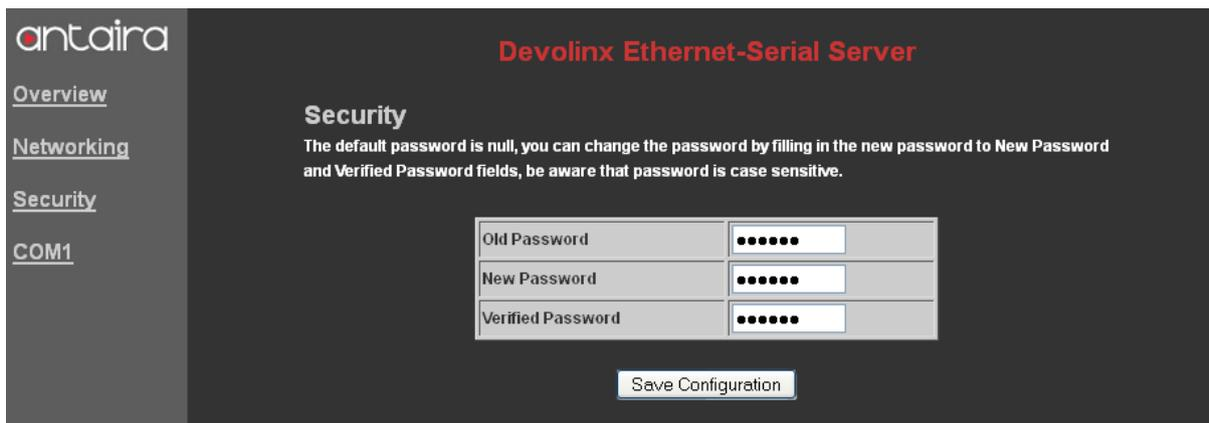

Figure 3.19 Change the password
1. Click on the **"Security"** link and the following screen appears.(Figure 3.19)